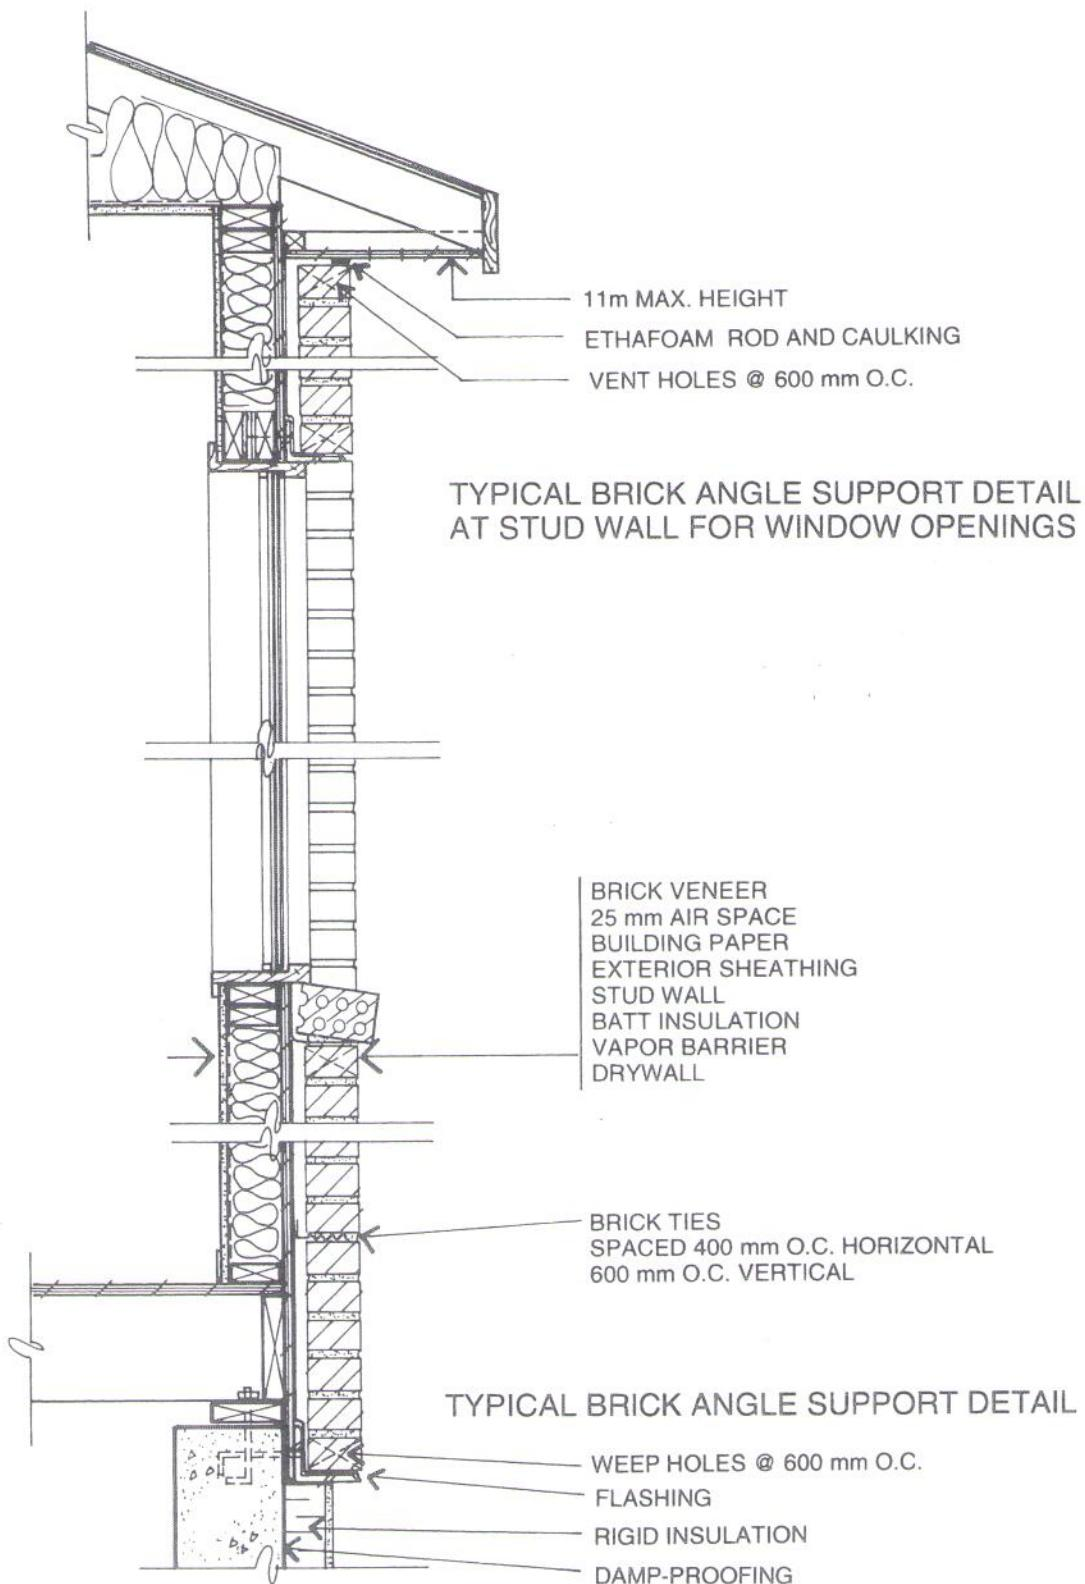

Figure 12 Wall section with insulation in the cavity
- Figure 12 Wall section with insulation in the cavity